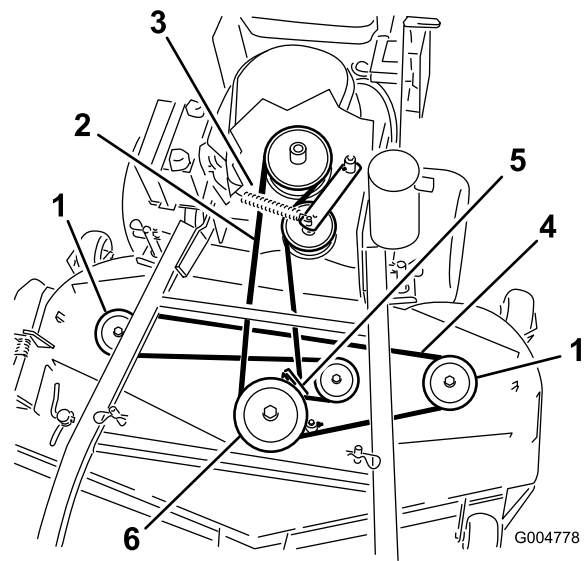
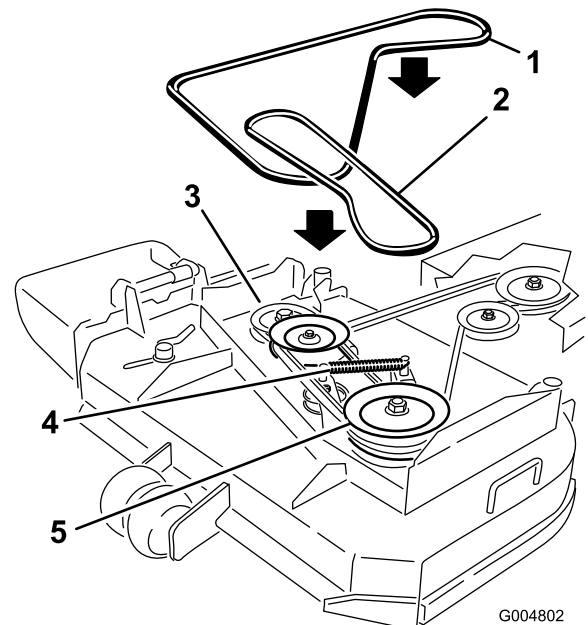

Figure 45
Figure 46
6. Disconnect the idler arm spring to relieve tension on the idler arm and idler pulley, then remove the worn mower belt (Figure 45 or Figure 46).
7. Install the new mower belt around the two outside spindle pulleys, the idler pulley, and in the lower groove of the double spindle pulley (Figure 45 or Figure 46).
8. Connect the idler arm spring (Figure 45 or Figure 46).
10. Adjust the belt guide an 1/8 inch (3 mm) from the belt (Figure 45 or Figure 46).